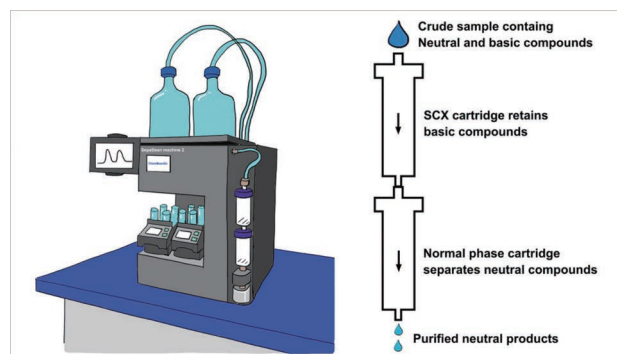

Figure 5. The purification strategies of column stacking.
- As shown in Figure 5, stack a SCX cartridge with another normal phase cartridge.